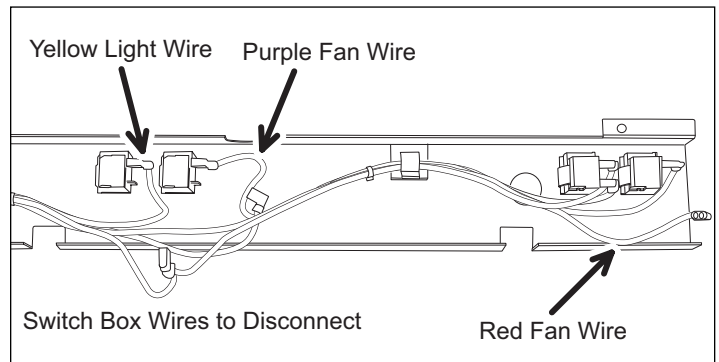

Figure 3
3. With switch box removed, disconnect yellow wire from upper light switch, purple wire from upper fan switch, and red wire from lower fan switch (See Fig. 3).